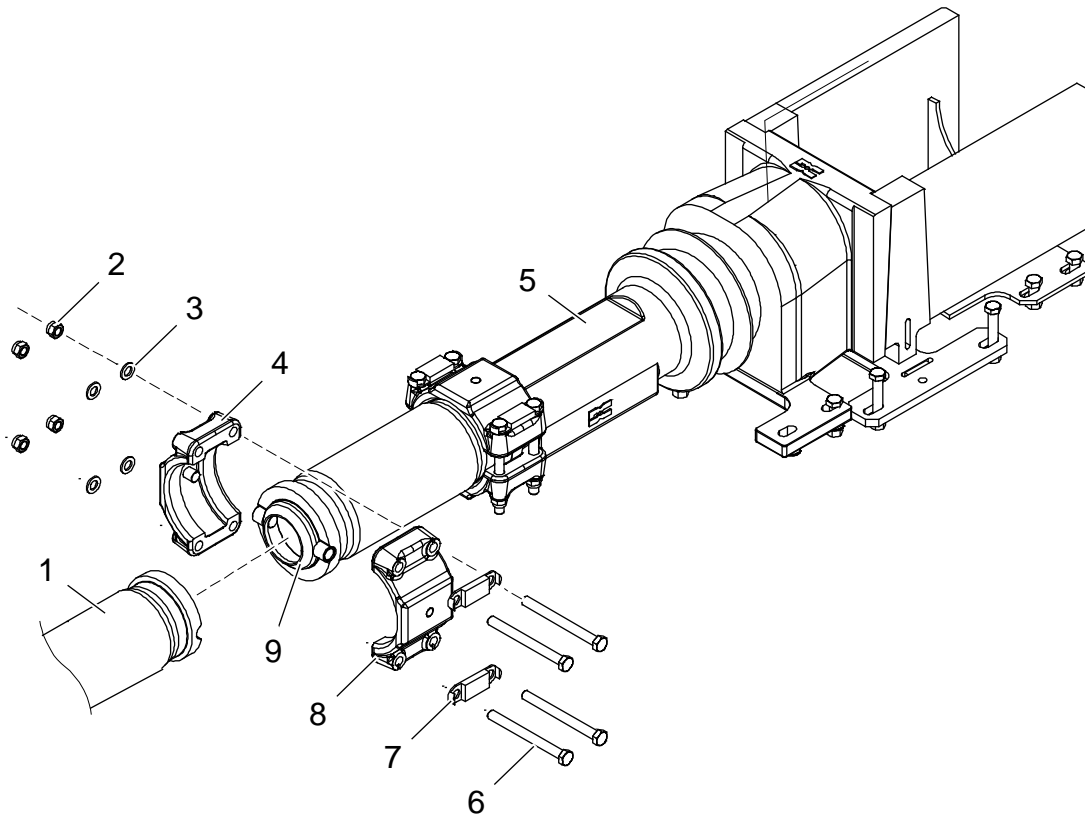

Fig. 2 Coupling/Uncoupling
4. Gently knock the socket joint halves (4 and 8) into place over the flange joint as shown in Fig. 2. Make sure that the guide pins on the socket joint halves are correctly positioned in corresponding recess in the guide cone (9).
6. Apply Molykote 1000, to the screw threads and fit screws (6), lock washers (7) to the socket joint half (8).
7. Fit the washers (3) and nuts (2) to the socket joint (4) and tighten nuts (2) by hand, without tools.